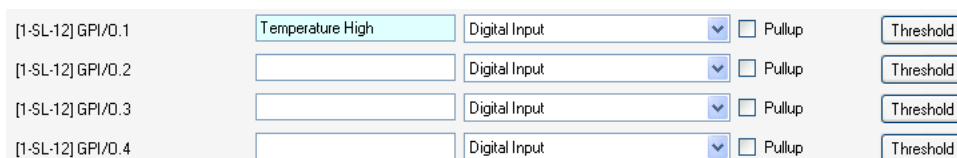

Figure 86: Selecting Digital Input for a Temperature Sensor
3. In the desired GPI/O port, set the functionality of the port and name the port in the description box (for example, Temperature High for Digital Input, see Figure 86).